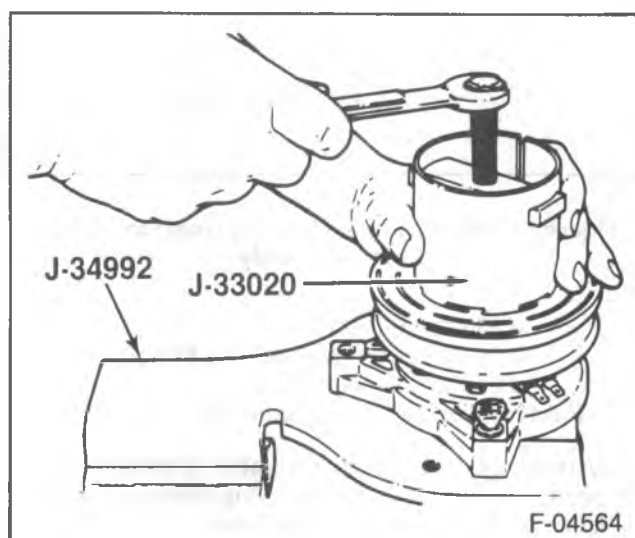

Figure 10—Removing the Pulley Rotor and Bearing Assembly
- Install J 33020 tangs into the inner circle of slots in the pulley (26) contact surface. Rotate J 33020 clockwise so the tangs will lock into the segments between the slots (figure 10).
- Hold J 33020 in place and tighten the puller screw against J 33023-A puller pilot to remove the pulley (26) (figure 10).